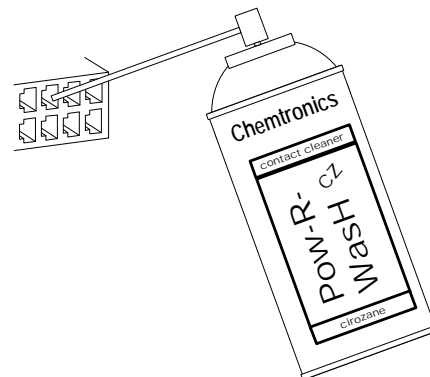

Figure 1
3. **Clean** each terminal using Chemtronics® contact cleaner "Pow-R-Wash CZ" as shown in Figure 1.